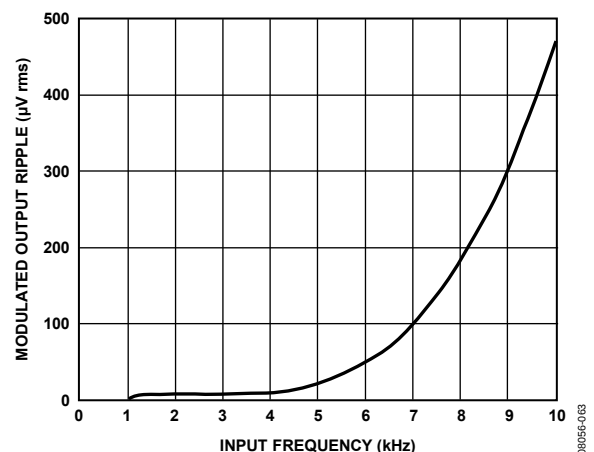

Figure 60. ADA4051-1/ADA4051-2 Modulated Output Ripple vs. Input Frequency
The remaining voltage ripple originates from two sources. The first type of ripple is due to the residual ripple associated with the initial offset of the Gm1. It is proportional to the magnitude of the initial offset and creates a spectrum at the chopping frequency (f_{CHOP}). When the amplifier is configured as a unity-gain buffer, this ripple has a typical value of $4.9 \mu\text{V rms}$ and a maximum of $34.7 \mu\text{V rms}$. The second type of ripple is due to the intermodulation between the high frequency input signal and the chopping frequency. This ripple depends on the input frequency (f_{IN}) and creates a spectrum at frequencies equal to the difference between the chopping frequency and the input frequency ($f_{CHOP} - f_{IN}$), as well as at frequencies equal to the summation of the chopping frequency and the input frequency ($f_{CHOP} + f_{IN}$). The magnitude of the ripple for different input frequencies is shown in Figure 60.
- No affect on the desired input signal as long as its frequency is much lower than the chopping frequency shown in Figure 60